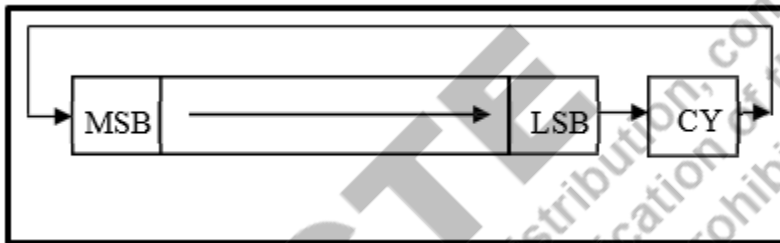

Fig 3.3: RRC Instruction
- RRC:** The instruction *rotate right through carry* (RRC) is similar to RR with the exception that the carry flag (CY) behaves as an extension to the least significant side of the accumulator. The bits from MSB towards the LSB are shifted to the right by one bit position. The LSB gets shifted to CY while the CY is rotated back to the MSB of A. The operation has been illustrated in Fig 3.3. The format of the instruction is as follows.